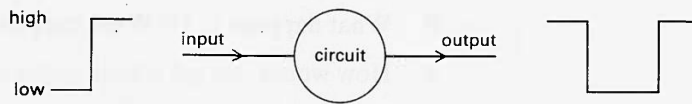

Figure C75
- 25(L)** An electronic circuit can be made which behaves as follows. When the input goes from low to high, the output goes from high to low, stays there for a short time, and then goes high again. Figure C75 illustrates the idea.